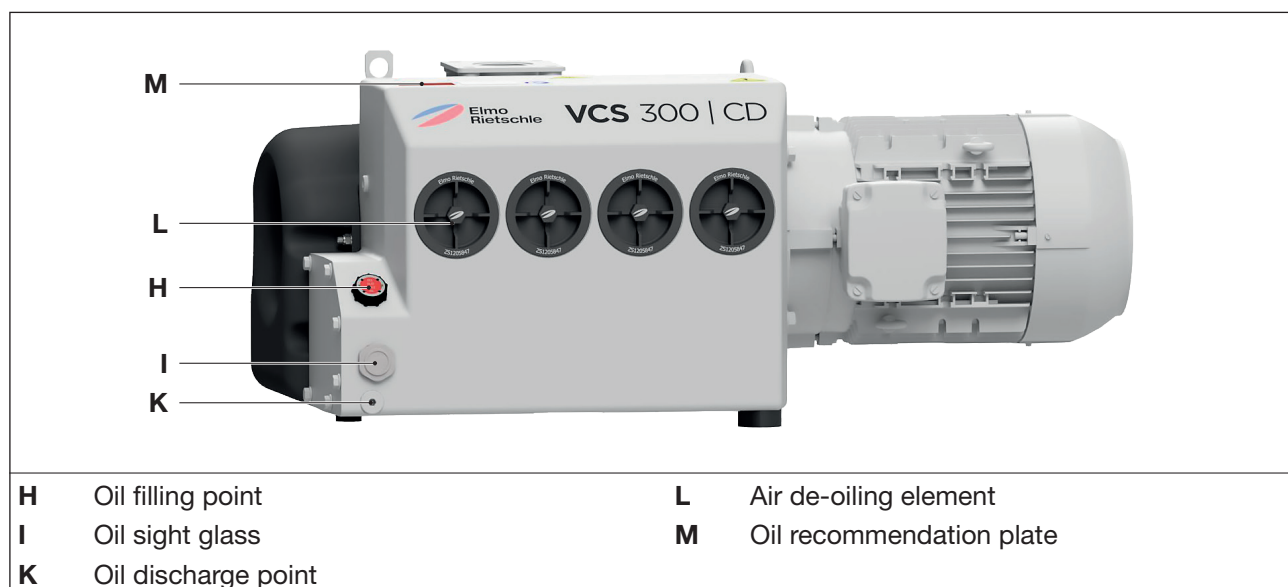

Fig. 7 Oil change and de-oiling
As operating agent, we recommend Elmo Rietschle oils, see oil recommendation plate (Fig. 7/M) as well as Tab. 3 on page 32:
- Open the cap of the oil filling point (Fig. 7/H) and refill oil until it reaches the upper edge of the sight glass (Fig. 7/I).
- Open the catch of the oil filling point (Fig. 7/H), open the oil discharge point (Fig. 7/K) and completely discharge the used oil.
- Close the oil discharge point (Fig. 7/K) and fill in new oil through the oil filling point (Fig. 7/H).
- Check the oil level in the sight glasses (Fig. 7/I).
- Unscrew air oil removal elements (Fig. 7/L) with a ring spanner (width across flats 19 mm) counter-clockwise.